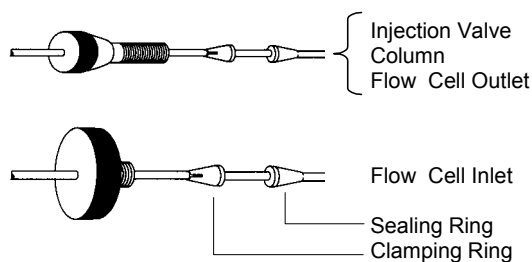

Fig. 6 DYNASEAL Capillary connections
8. Push the bushing, the clamping ring, and the sealing ring onto the capillary. Please take care on the sequence and orientation of fittings, see Fig. 6 „DYNASEAL Capillary connections“.
11. Connect the flow cell outlet (6) using a capillary or teflon tube (ID > 0,5 mm) to a waste bottle.